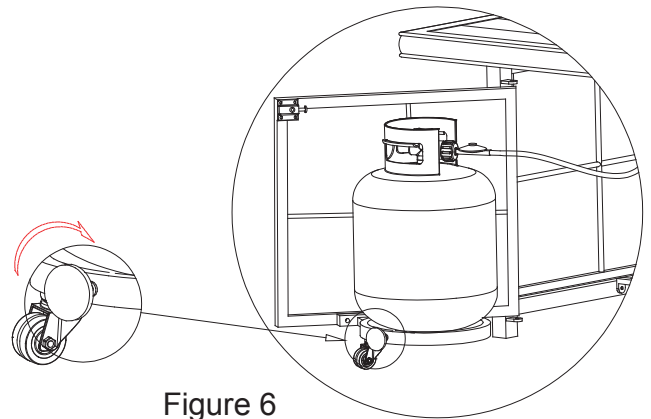

Figure 6
5. Secure the cylinder by tightening clockwise the Adjusting screw found on the metal stand (see Figure 6), so that the cylinder cannot move from side to side or fall down.